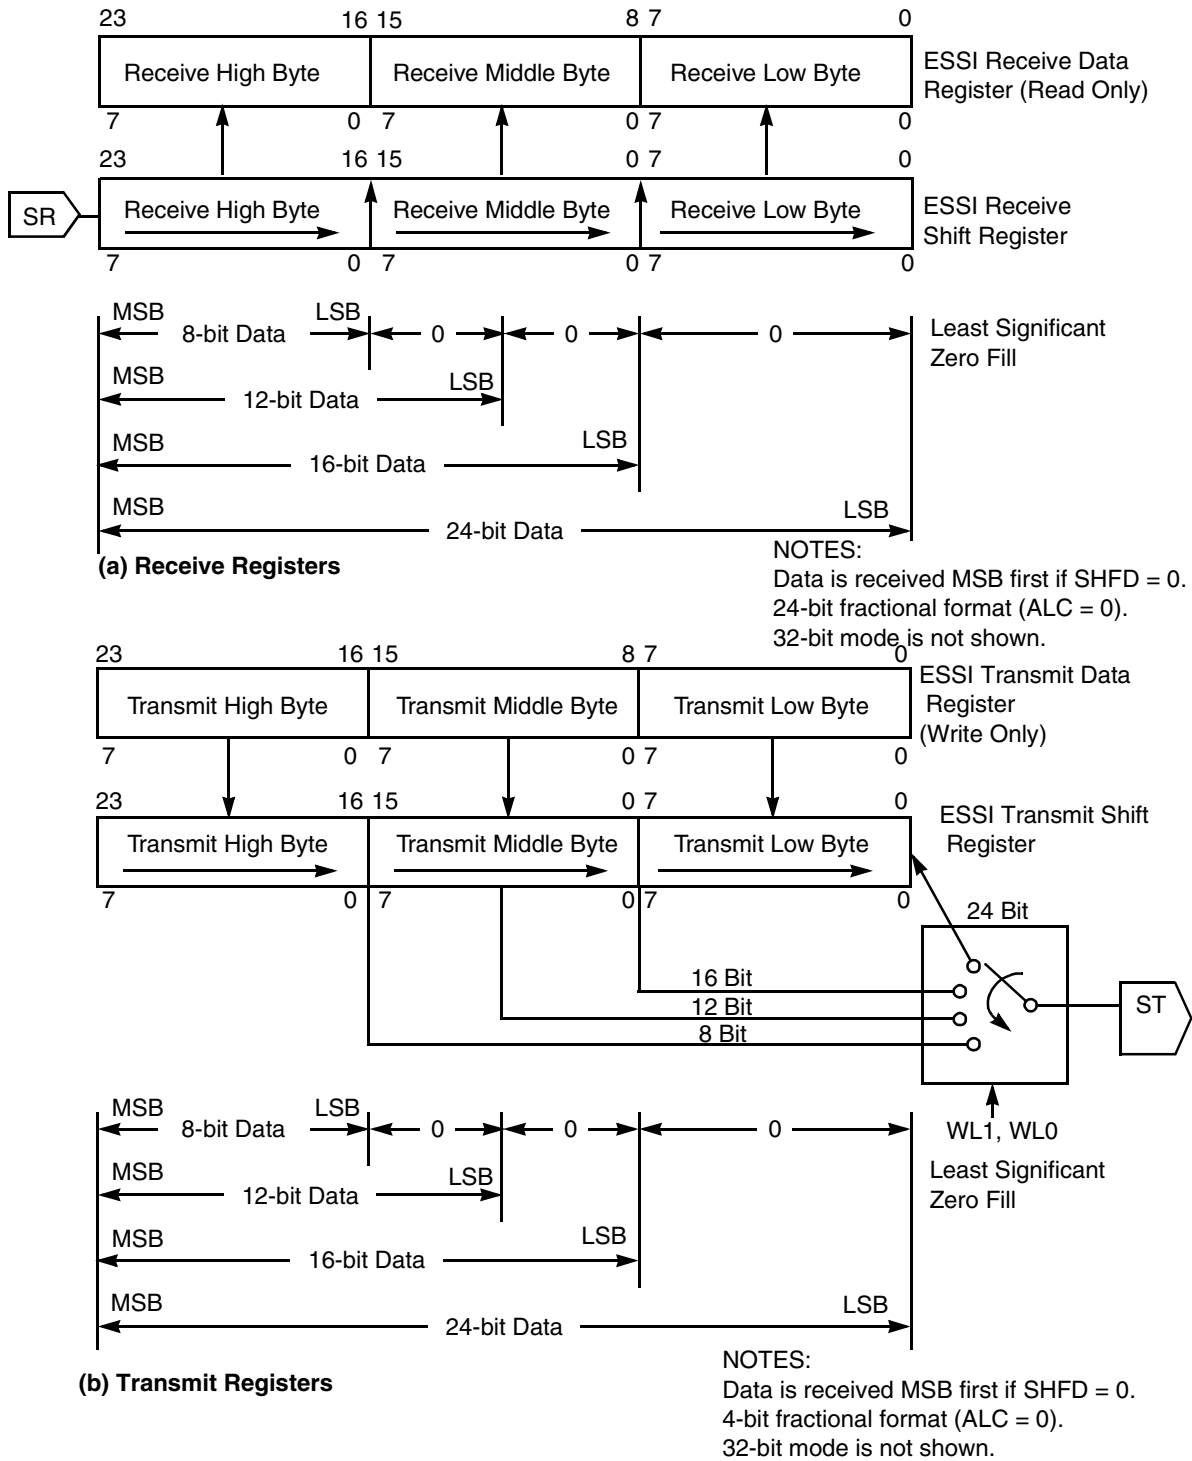

Figure 7-13. ESSI Data Path Programming Model (SHFD = 1)
The 24-bit Receive Shift Register (see **Figure 7-12** and **Figure 7-13**) receives incoming data from the serial receive data signal. The selected (internal/external) bit clock shifts data in when the associated frame sync I/O is asserted. Data is received MSB first if SHFD is cleared and LSB first if SHFD is set. Data transfers to the ESSI Receive Data Register (RX) after 8, 12, 16, 24, or 32 serial clock cycles are counted, depending on the word length control bits in the CRA.
7.5.5 ESSI Receive Data Register (RX)
The Receive Data Register (RX) is a 24-bit read-only register that accepts data from the receive shift register as it becomes full, according to **Figure 7-12** and **Figure 7-13**. The data read is aligned according to the value of the ALC bit. When the ALC bit is cleared, the MSB is bit 23, and the least significant byte is unused. When the ALC bit is set, the MSB is bit 15, and the most significant byte is unused. Unused bits are read as 0. If the associated interrupt is enabled, the DSP is interrupted whenever the RX register becomes full.
The three 24-bit transmit shift registers contain the data being transmitted, as in **Figure 7-12** and **Figure 7-13**. Data is shifted out to the serial transmit data signals by the selected (whether internal or external) bit clock when the associated frame sync I/O is asserted. The word-length control bits in CRA determine the number of bits that must be shifted out before the shift registers are considered empty and can be written again. Depending on the setting of the CRA, the number of bits to be shifted out can be 8, 12, 16, 24, or 32. Transmitted data is aligned according to the value of the ALC bit. When ALC is cleared, the MSB is Bit 23 and the least significant byte is unused. When ALC is set, the MSB is Bit 15 and the most significant byte is
TX2, TX1, and TX0 are 24-bit write-only registers. Data written into these registers automatically transfers to the transmit shift registers. (See **Figure 7-12** and **Figure 7-13**.) The data transmitted (8, 12, 16, or 24 bits) is aligned according to the value of the ALC bit. When the ALC bit is cleared, the MSB is Bit 23. When ALC is set, the MSB is Bit 15. If the transmit data register empty interrupt has been enabled, the DSP is interrupted whenever a transmit data register becomes empty.
TSMA and TSMB (as in **Figure 7-12** and **Figure 7-13**) can be seen as a single 32-bit register, TSM. Bit n in TSM (TSn) is an enable/disable control bit for transmission in slot number N. When TSn is cleared, all the data signals of the enabled transmitters are tri-stated during transmit time slot number N. The data still transfers from the enabled transmit data register(s) to the transmit shift register. However, the TDE and the TUE flags are not set. Consequently, during a disabled slot, no transmitter empty interrupt is generated. The DSP is interrupted only for enabled slots. Data written to the transmit data register when the transmitter empty interrupt request is serviced transmits in the next enabled transmit time slot. When TSn is set, the transmit sequence proceeds normally. Data transfers from the TX register to the shift register during slot number N, and the TDE flag is set. The TSM slot mask does not conflict with the TSR. Even if a slot is enabled in the TSM, you can chose to write to the TSR to tri-state the signals of the enabled transmitters during the next transmission slot. Setting the bits in the TSM affects the next frame transmission. The frame being transmitted is not affected by the new TSM setting. If the TSM is read, it shows the current setting.
RSMA and RSMB (as in **Figure 7-12** and **Figure 7-13**) can be seen as one 32-bit register, RSM. Bit *n* in RSM (RS_{*n*}) is an enable/disable control bit for time slot number *N*. When RS_{*n*} is cleared, all the data signals of the enabled receivers are tri-stated during time slot number *N*. Data transfers from the receive data register(s) to the receive shift register(s), but the RDF and ROE flags are not set. Consequently, during a disabled slot, no receiver full interrupt is generated. The DSP is interrupted only for enabled slots. When RS_{*n*} is set, the receive sequence proceeds normally. Data is received during slot number *N*, and the RDF flag is set.